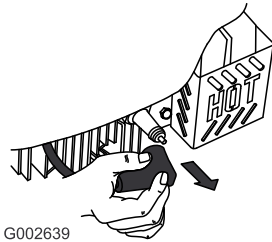

Figure 36
2. Disconnect the spark plug wire from the spark plug (Figure 36) before performing any maintenance procedure.